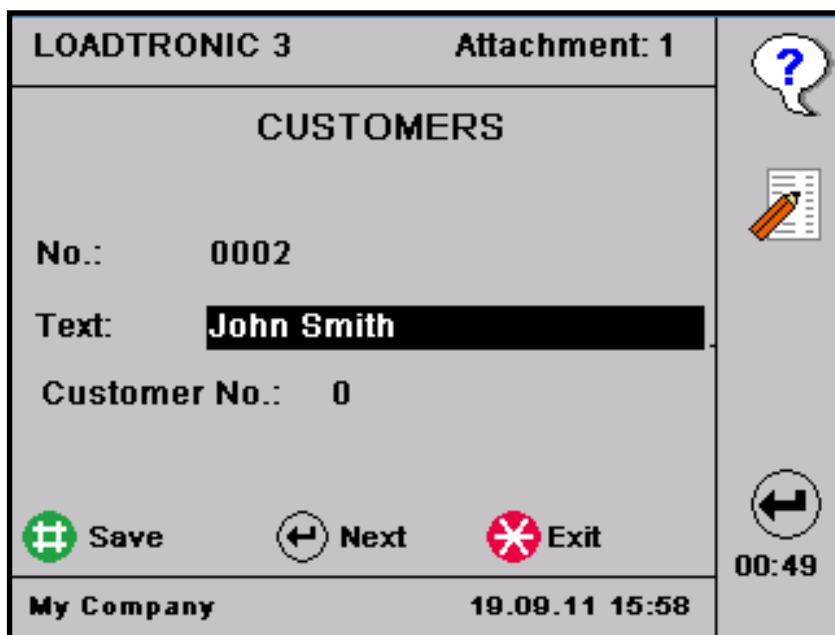

Figure 4-4 Edit the customer description
3. Press *Next/F4* to highlight the text field, refer Figure 4-4.